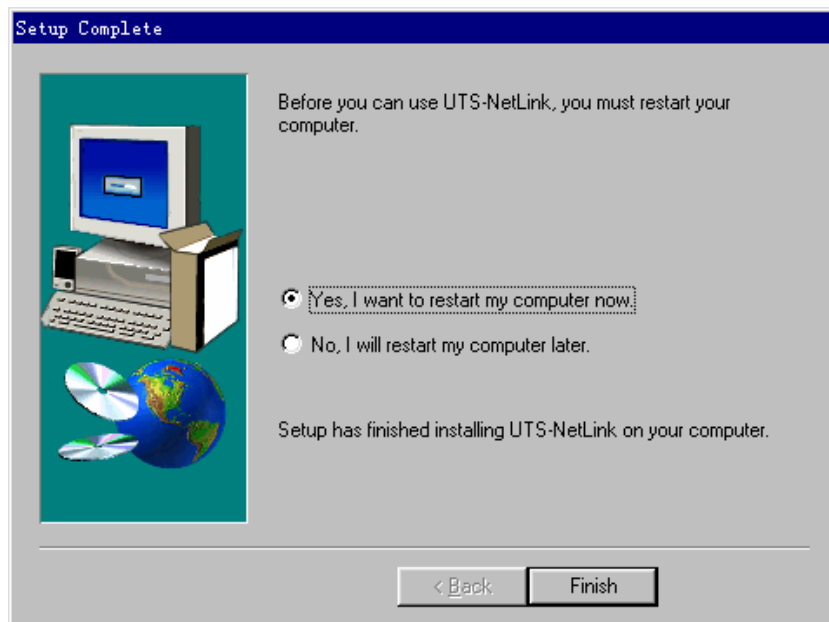

Figure 2-56 [Setup Complete] dialog box
- 8) (After the installation, you can select [Start/Setting/Control Panel] and double-click Vertel UTS-NetLink in the control panel to open this configuration dialog box to change or view the settings.) Click <OK>. The [Network Configuration] dialog box is displayed. Click <Next>. The InstallShield Wizard automatically configures the network components. After the configuration, the [Setup Complete] dialog box is displayed, as shown in Figure 2-56.